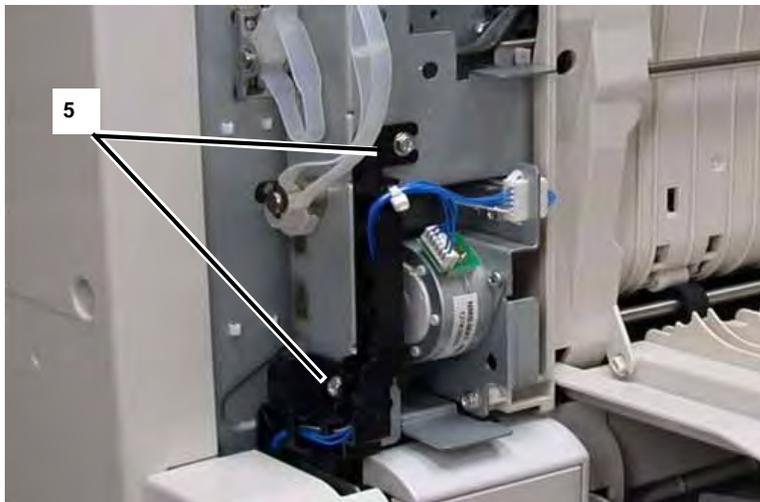

Figure 4 Removing Screws
5. Remove the Harness Guide (Figure 4).